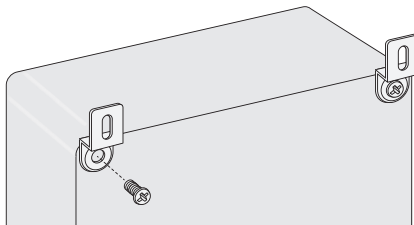

Figure 6 - Mounting the Enclosure
1. Attach the mounting brackets to the back of the enclosure with the four provided screws as shown in Figure 6.